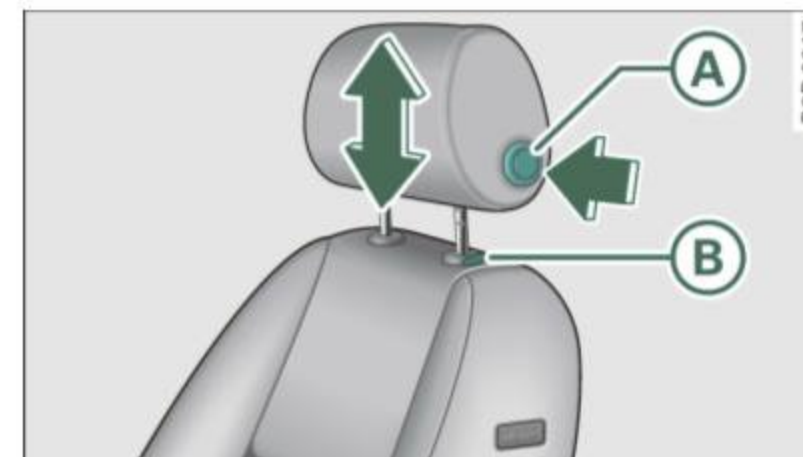

Fig. 74 Driver's seat head restraint: adjusting the height
- To move the head restraint down, press the button **A** and slide the head restraint downward until you feel it click into place ⇒ *page 77*, fig. 74.
- Press the release button **B** ⇒ *page 77*, fig. 74 and pull the restraint straight up and out of the seat.